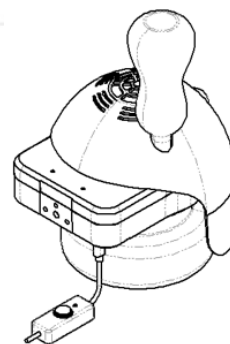

Figure 8
3. Invert and insert the bottle through the refill port and hold it a little bit up as shown in **Figure 8**. Ensure the seal has been broken when inserted into the refill port. Before removing it, make sure the tube is empty.
6. **IMPORTANT:** To achieve proper functioning, fill or refill the ViraWarn Plus 100 unit using two (2) refill tubes